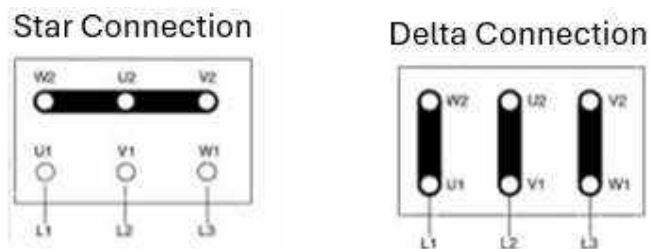

Figure 1
Electrical connections should always be made by a qualified experienced electrician. The motors supplied must be powered with three-phase voltages or, if required by the customer, single-phase. The type of connection in three-phase motors can be star (Y) or delta (Δ) according to the 400 or 230 VAC power supply line (see figure 1).